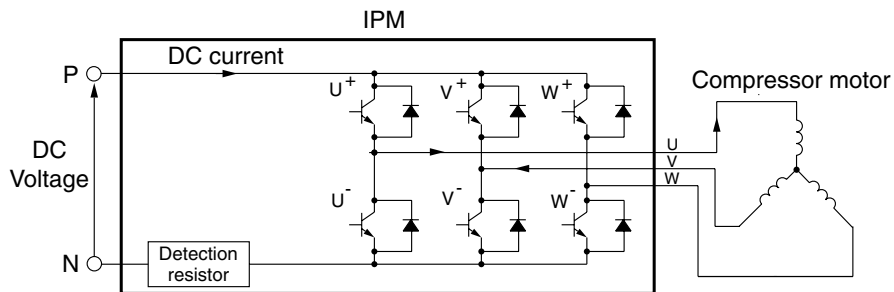

Fig. 6-6
(1) Turns on the power module's U⁺ and V⁻ transistors so the current flows to the motor windings as shown in Fig. 6-6.
(2) Varies the turn-ON time of the U⁺ transistor according to the DC voltage level and the start is controlled so the start current is approx. 10A .